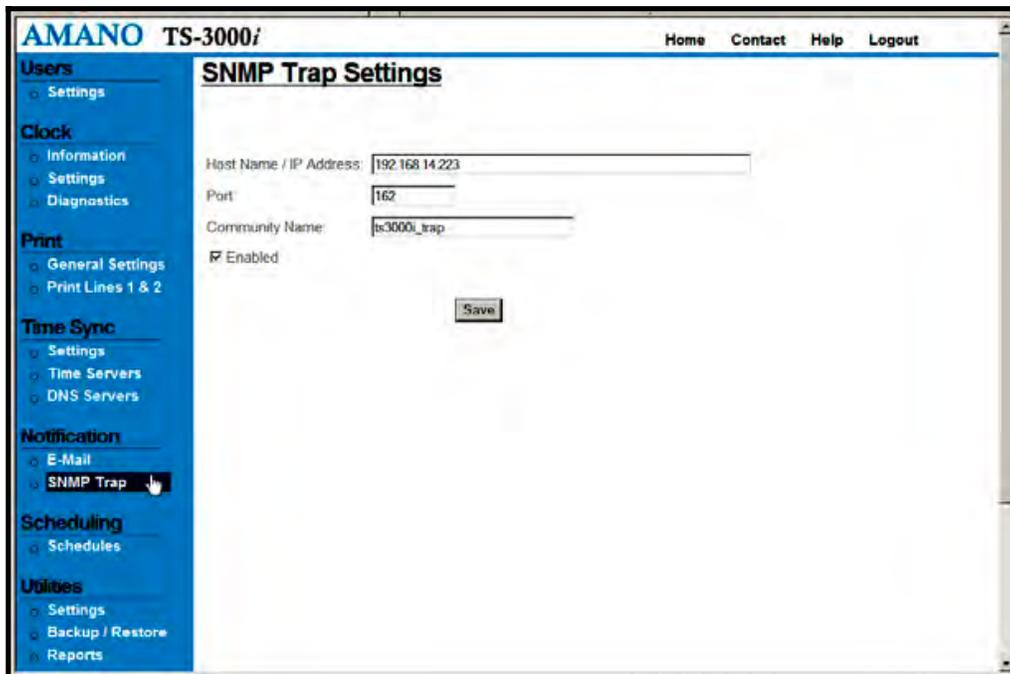

Figure 4-19: SNMP Trap Settings for E-mail Notification
- Step 1.** Click on the **SNMP Trap** link under **Notification**, and the **SNMP Trap Settings** screen will appear (see *Figure 4-19*).